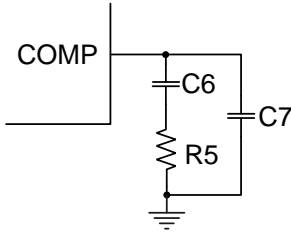

Figure 10: Compensation Network
The system has two important poles: one from the compensation capacitor (C6) and the output resistor of the error amplifier, and the other from the output capacitor and the load resistor (see Figure 10). These poles can be calculated with Equation (16) and Equation (17):